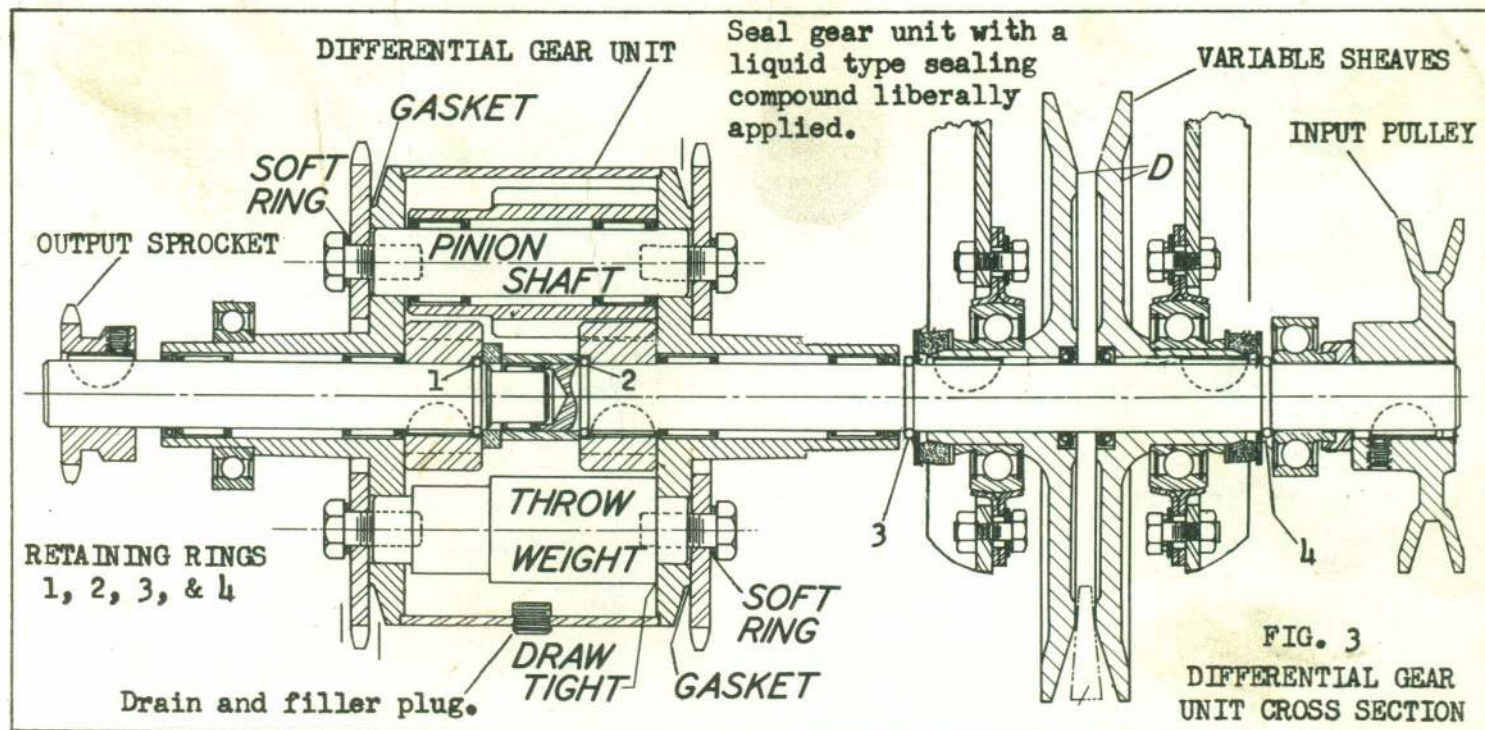

FIG. 3
- b. Remove bearings from outer end of upper shaft, Fig. 2, and lower shaft, Fig. 3.